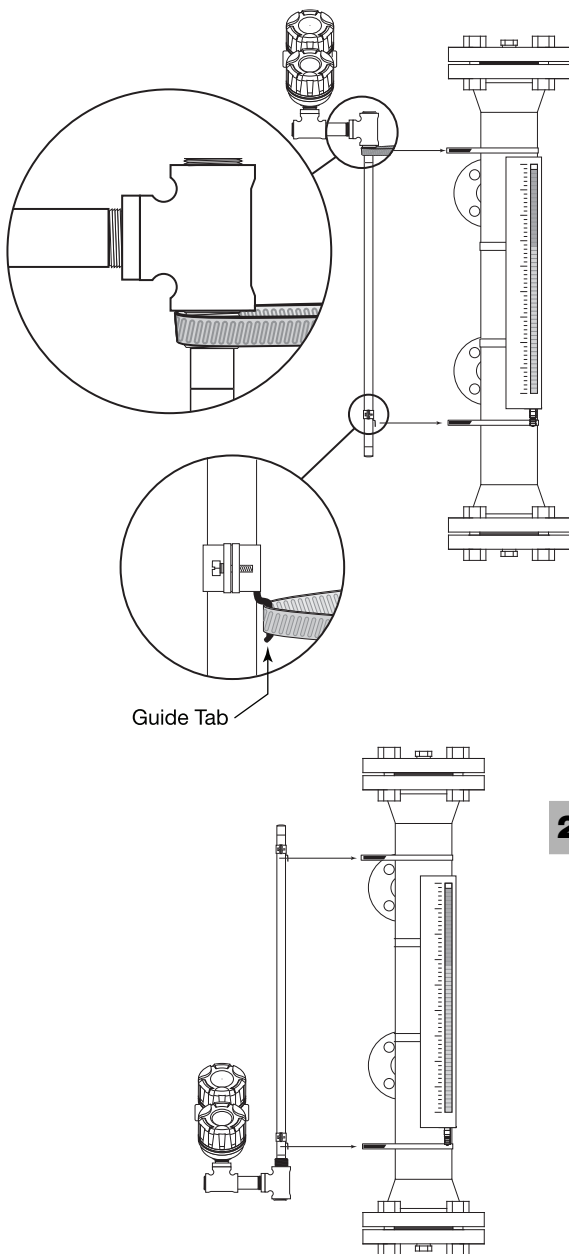

Figure 1
3. Attach the lower clamp and tighten so that it remains in place, but loose enough so that there is still room to place the guide tab from the Jupiter between the inside of the clamp and the outer diameter of the MLI chamber. See Figure 1.
5. Mount the Jupiter guide pin in the lower clamp and tighten. If necessary, use strapping tape to temporarily hold in place on the MLI. See Figure 1.
6. Position the upper clamp to attach the unit to the MLI and tighten. See Figure 1.